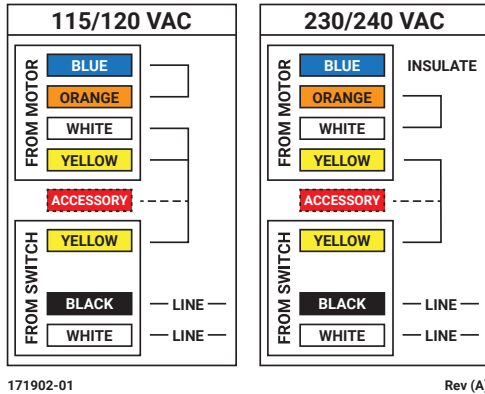

Figure 7
3. Match voltage, connect motor to power supply phases. (see Figure 7)
4. Position wires inside the junction box and replace electrical cover. Install all four (4) screws.